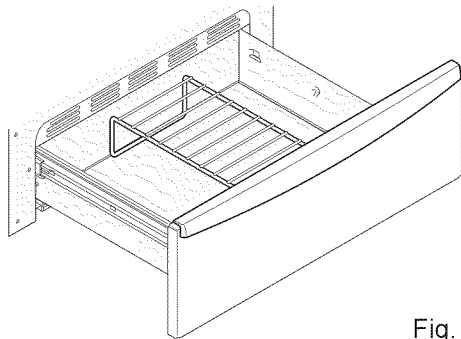

Fig. 1
- In the **upright position** (See Fig. 1) to allow low profile food items to be placed both under and on top of the rack (for example, rolls or biscuits on top of the rack and a casserole dish underneath).